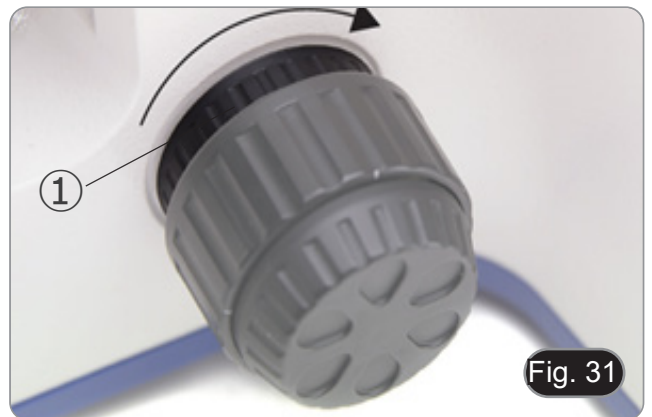

Fig. 31
- To modify the tension according to personal's needs, rotate the ring ①, placed on the right side of the frame just beside the coarse focus knob. (Fig. 31)